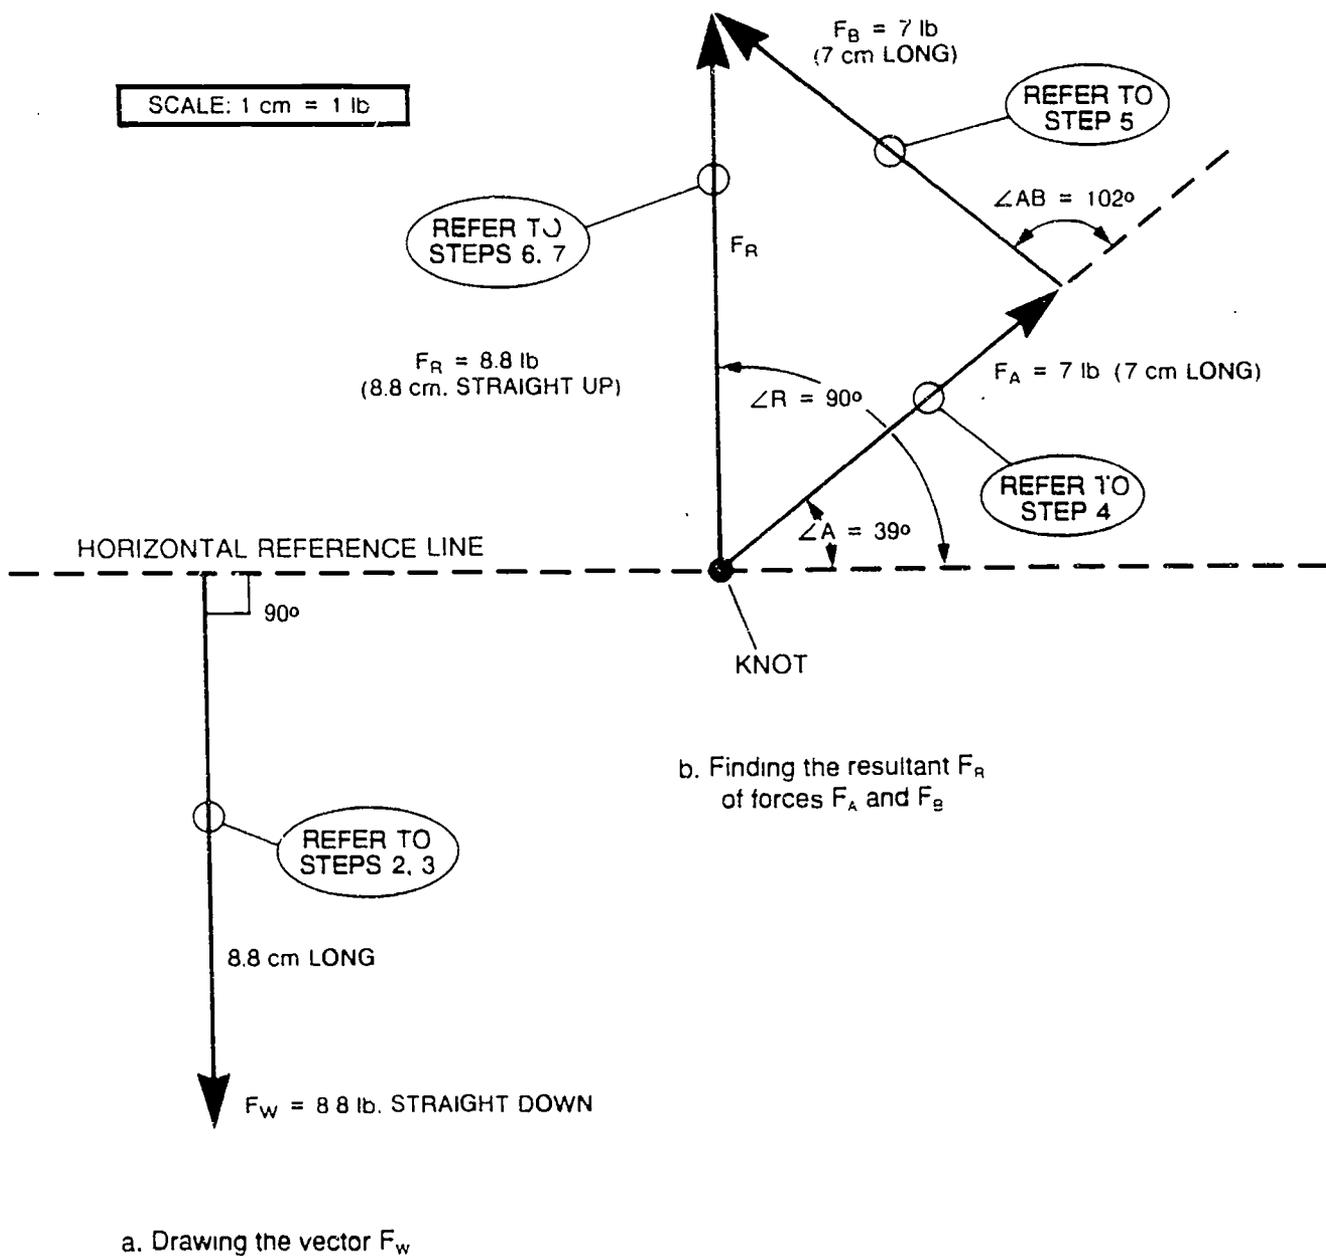

Fig. 5 Drawing the vector diagrams.
1. Select a plain sheet of paper. You can use a sheet with a grid on it if you wish, but plain paper will work just as well. Based on the values of the forces you measured, select a convenient scale, such as 1 cm = 1 lb, or 1/2 inch = 1 pound. Think carefully before you choose the scale. If you choose a scale like 1 in. = 1 lb, your drawing may not fit on the page. Or, if you choose a scale like 1/8 in. = 1 lb, your drawing may be too small. For the typical data shown in Figure 4a, we've chosen a scale of 1 cm = 1 lb. As you'll see when you examine Figure 5 that follows, the choice of this scale makes it easy for us to draw large, clear diagrams using most of the page.
2. On the blank page, we first draw a horizontal reference line across the page, through the center. See Figure 5. Near the left edge of this line we draw the vector F_W to represent the hanging weight. Since
- Follow the steps outlined in Part 2. Use the data you collected (from Data Table) and make vector diagrams for F_W , F_A and F_B , as was done in Figure 5. Begin with a sheet of plain (or grid) paper.